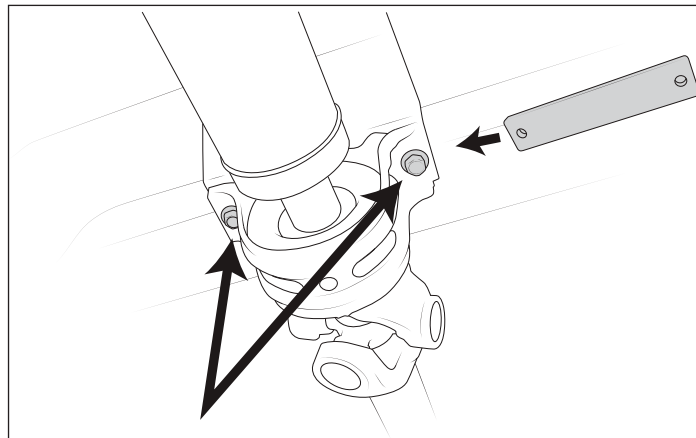

Figure 7
2. Remove the two (2) carrier bearing bolts and discard (fig. 7).